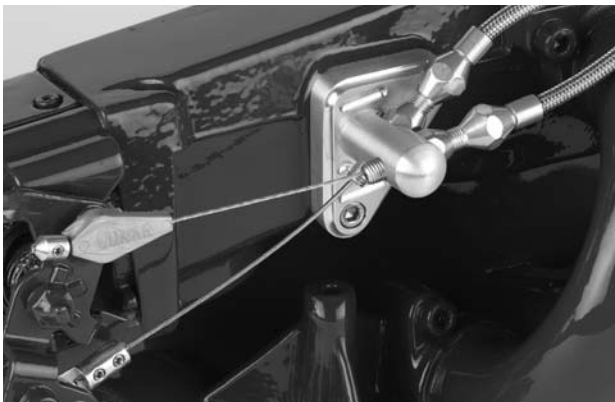

Fig. 1
Step 1: Install the billet aluminum throttle bracket assembly to the tuned-port unit as shown in **Fig. 1**.
Step 2: Install trans tube into trans without o-ring and inner cable, and then install adjuster into the Lokar Billet Aluminum Throttle Bracket as shown in **Fig. 1**.